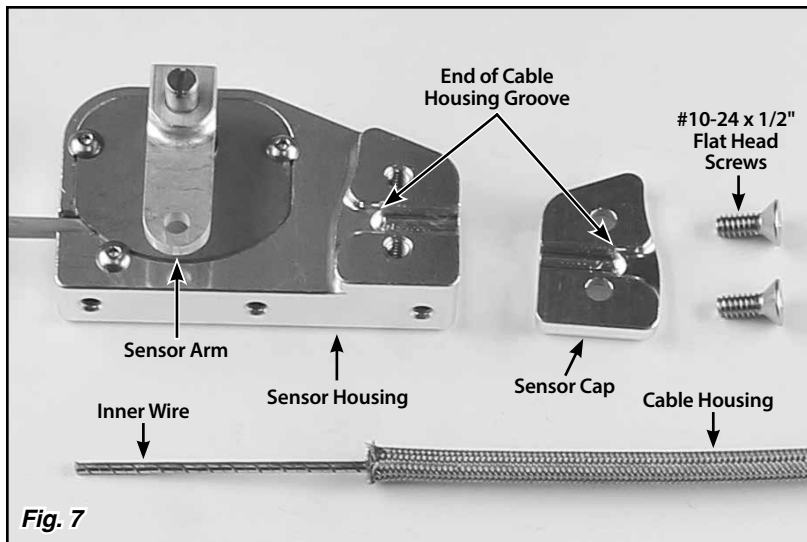
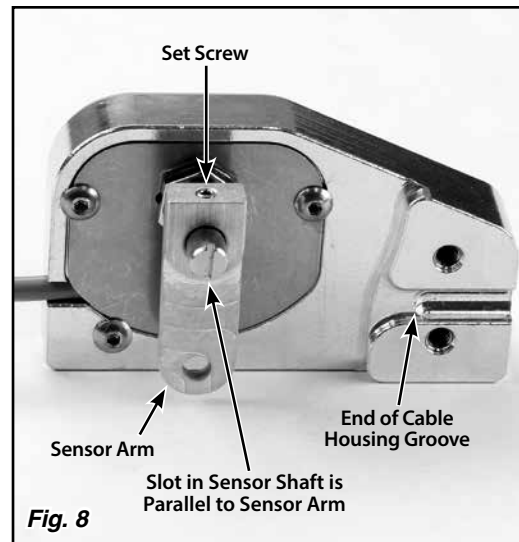

Fig. 7
Fig. 8
**Step 2:** Remove the sensor cap by removing the two #10-24 x 1/2" flat head screws using a 1/8" Allen wrench, and separate the cable housing from the sensor. **Fig. 7**
**Step 3:** Make sure the sensor arm is parallel to the slot in the sensor shaft, with the set screw in the top of the sensor arm aligned with the slot. If it is not, loosen the set screw in the top of the sensor arm using a 1/16" Allen wrench, and adjust the position of the sensor arm on the shaft. **Fig. 8**
There is a groove in the sensor housing that the end of the cable housing fits in to. Mark the cable housing at the end of the cable housing groove. Remove the cable housing from the adjustable cable mounting bracket. **Fig. 7** and **Fig. 8**